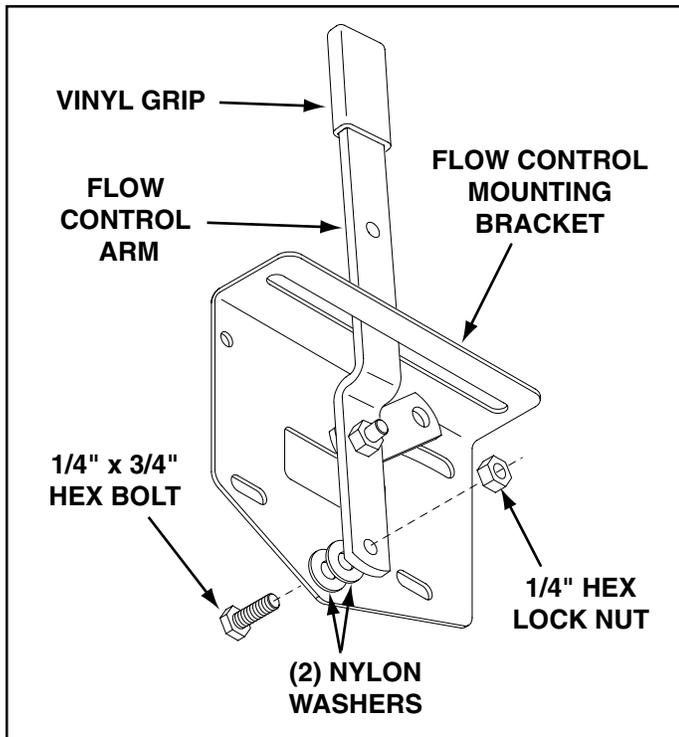

FIGURE 8
16. Assemble the flow control arm to the flow control mounting bracket using a 1/4" x 3/4" hex bolt, two nylon washers and a 1/4" hex lock nut as shown in figure 8. **Tighten carefully.** The flow control arm should be snug, but should pivot with no more than a slight resistance.
17. Assemble the vinyl grip. See figure 8.